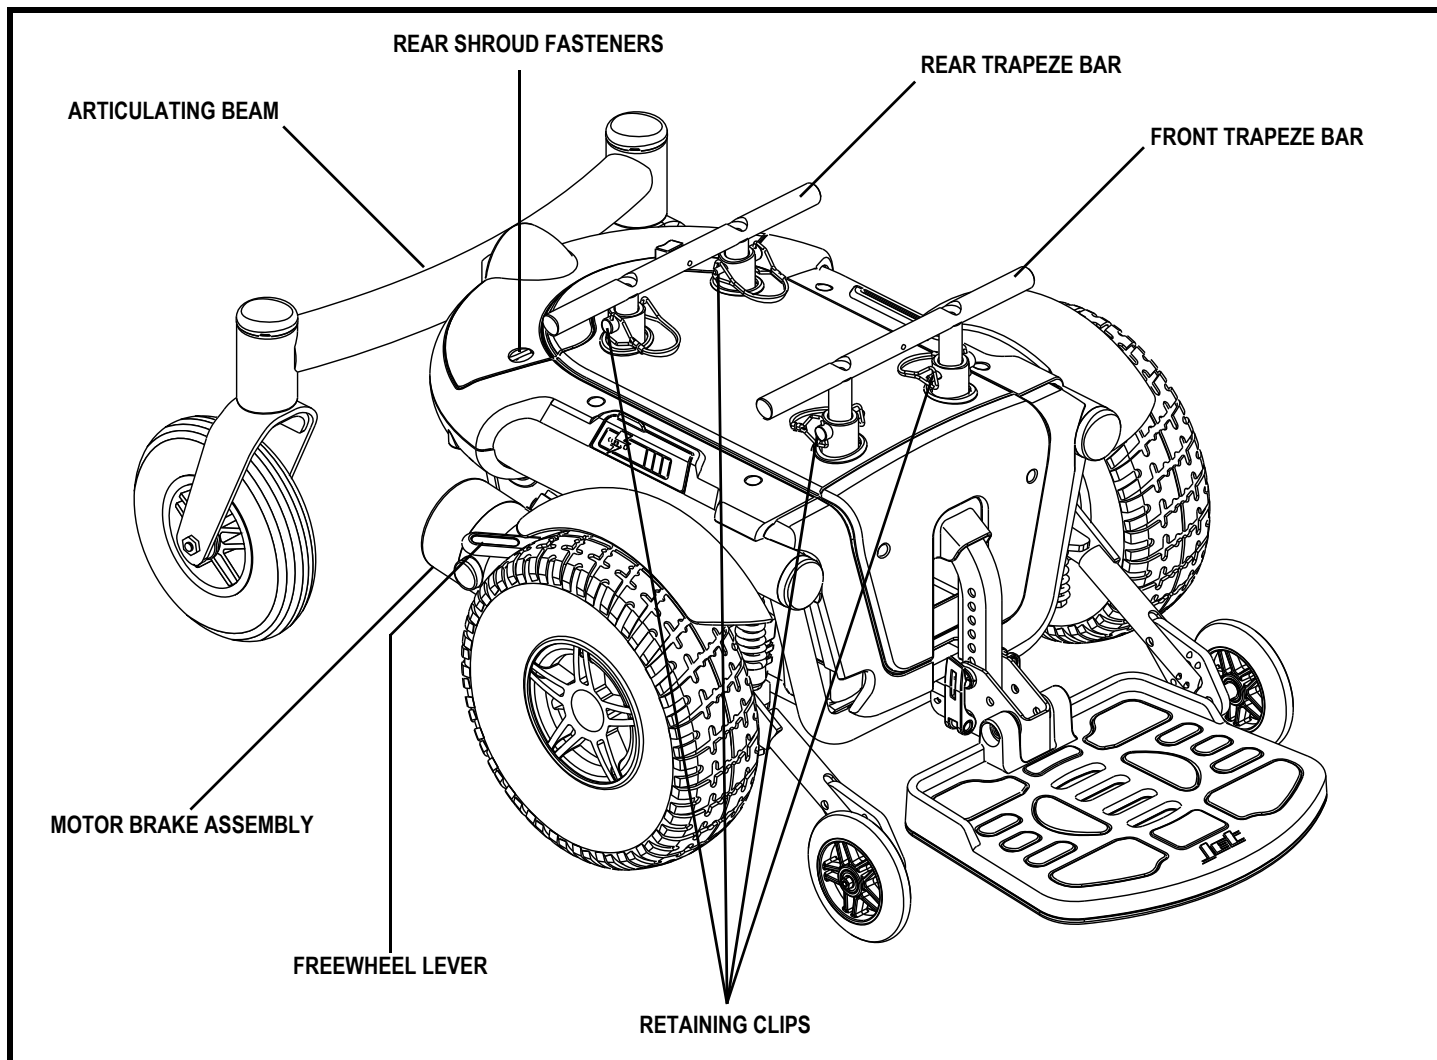

Figure 6. The Jet 3 Ultra Power Base
6. Turn the rear shroud fasteners one-quarter turn in any direction. See figure 6.
2. Loosen the rear shroud fasteners and remove the rear shroud. **See figure 6.**